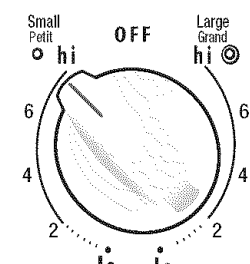
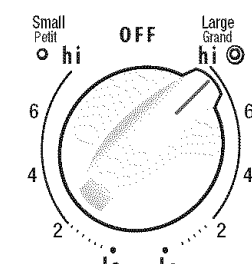

Figure 3
Figure 5
2. Push in and turn the control knob counterclockwise (See Figure 3) for smaller cookware or clockwise (See Figure 5) for larger cookware.